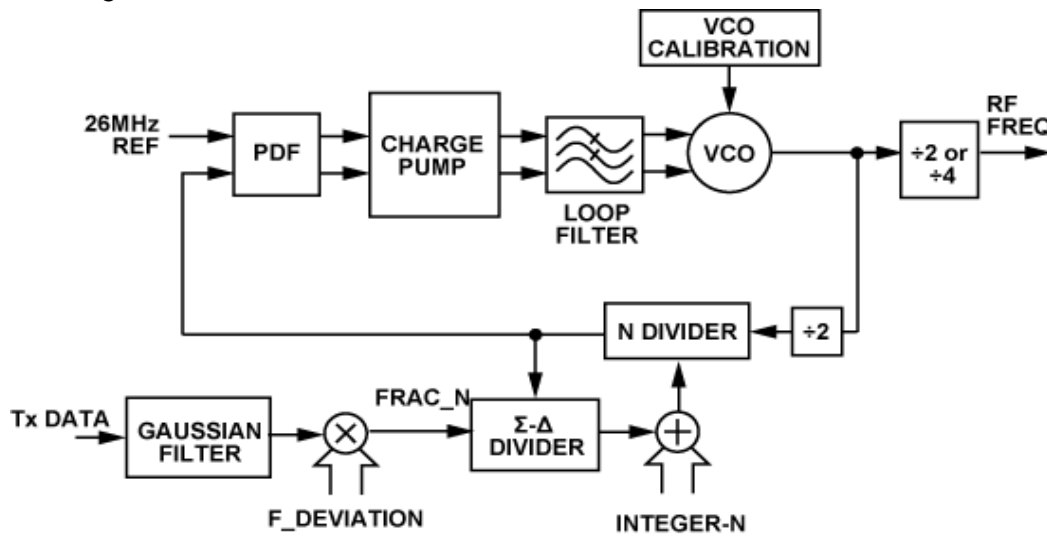

Figure 42: Synthesizer Architecture
A fully integrated RF frequency synthesizer is used to generate both the transmit signal and receive local oscillator (LO) signal. The architecture of the frequency synthesizer is shown in Figure 42.